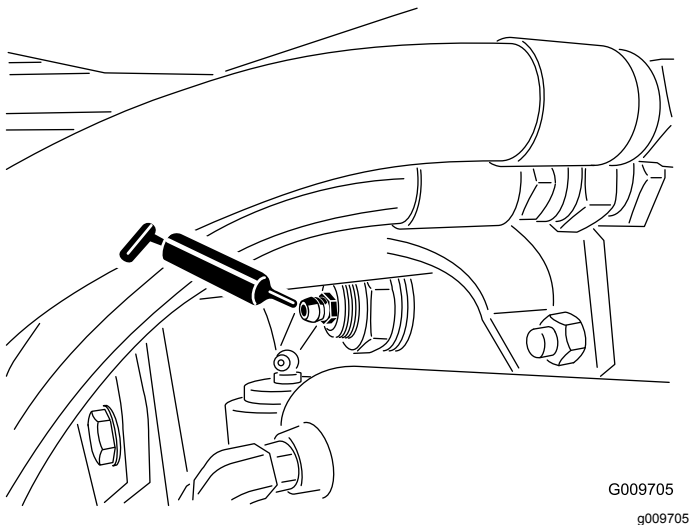

Figure 68
- Rear axle pivot bushings (2) (Figure 68)